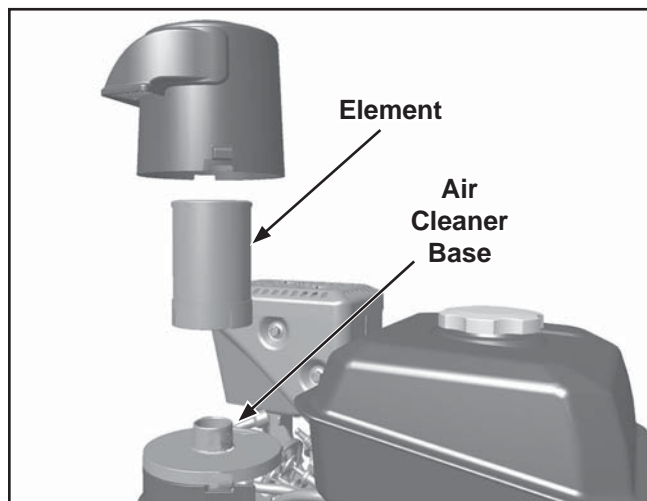

Figure 11-89. Installing Air Cleaner Element.
1. Place the air cleaner element with precleaner onto the boss on the air cleaner base. See Figure 11-89.